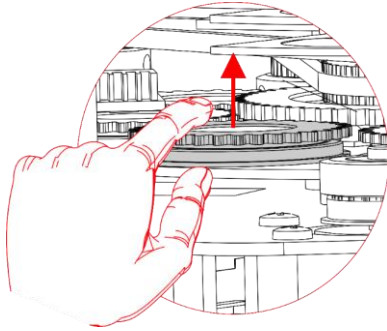
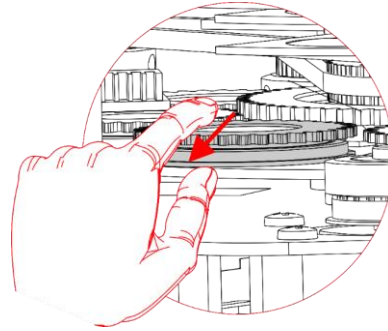

Fig. 14
Fig. 15
- 06) Gently lift the gobo holder a bit up and pull it out from the rotating gobo wheel, as shown in Fig. 14 and Fig. 15.